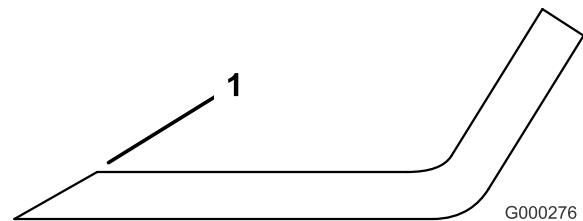

Figure 97
1. Use a file to sharpen the cutting edge at both ends of the blade (Figure 97).